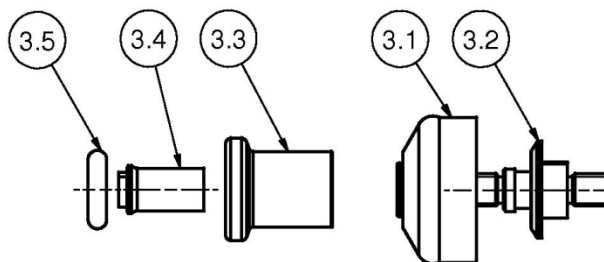

Figure 10 – Valve cone, individual parts
- Prior to valve cone (3) installation, clean installation space and running surfaces.
- Assemble the valve cone (3) in reverse order (see figure 10).